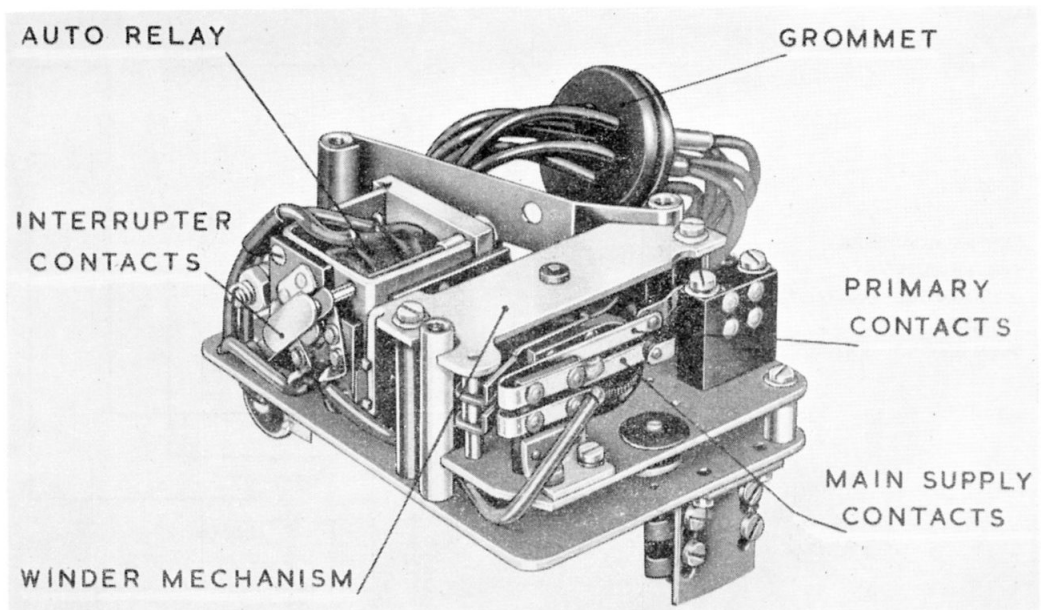
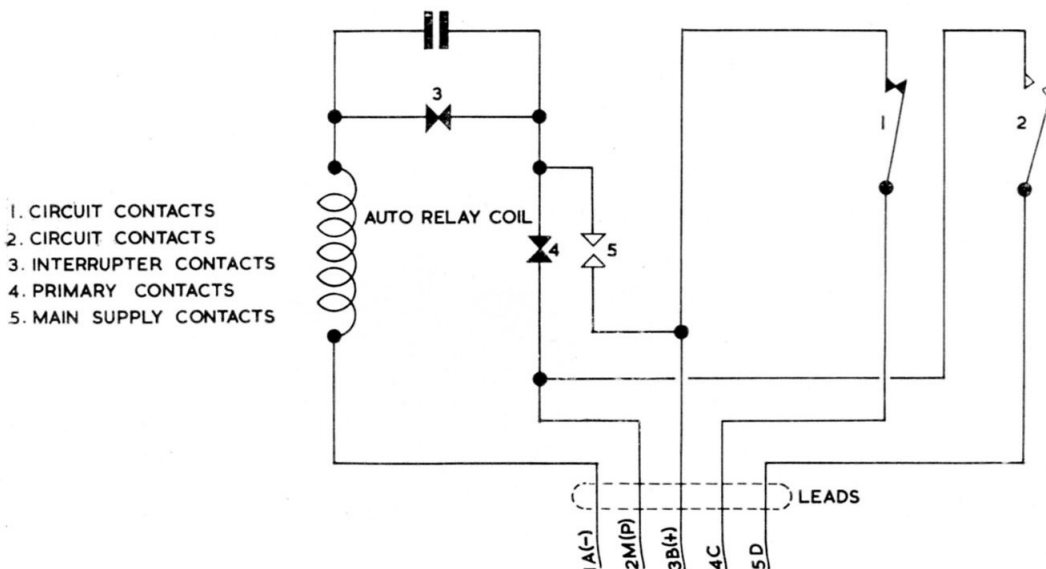

Fig. 3. Winding mechanism
Fig. 4. Diagram of internal connections
5. The primary and main supply contacts of the auto-relay circuit (*fig. 4*) are mounted on the winder side of the mounting plate (*fig. 3*). They are operated by metal cams, the primary contacts cam rotating with the camshaft and the main supply contacts cam rotating with the ratchet wheel. The two moving contacts are interlocked so that, when the main supply contacts have closed, the primary contacts open, but, when the main supply contacts open the primary contacts remain open until allowed to close by their cam.
6. The diagram of internal connections (*fig. 4*) shows the contacts in their normal positions: i.e., with the switch set before commencing a cycle. Contacts 1 and 2 are those for controlling the external circuit, making contact between leads 3B(+) (28-V d.c.) and 4C. and between 2M(P) (28-V d.c.) and 5D respectively for predetermined periods during the 36 second cycle (*para. 10*).